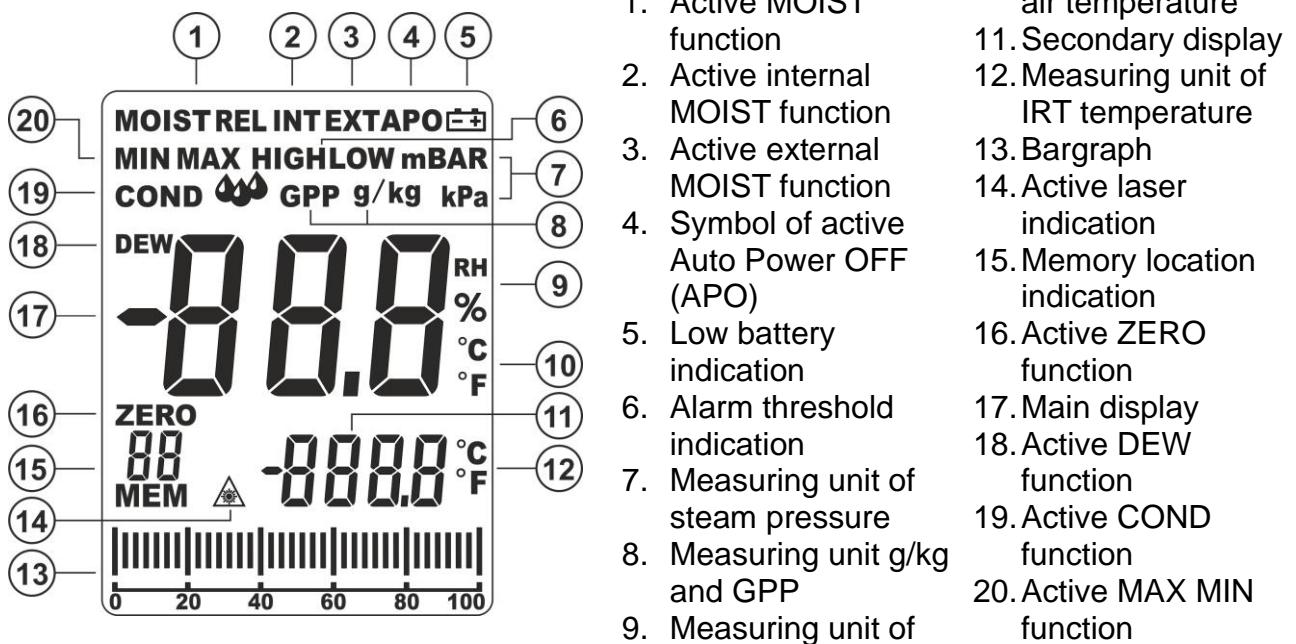
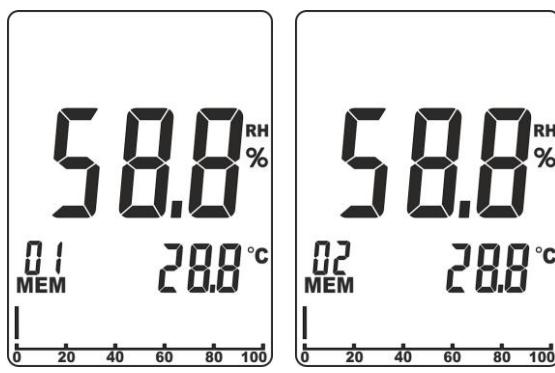

Fig. 2: Display description
Fig. 3: Storage of measurement results
1. With the result shown on the display (see Fig. 3 – left side), press and hold (>2s) key **MEM/ALM** until the instrument gives out a sound.
2. The measured value is saved in the location indicated at the bottom of the display (see Fig. 2 – part 15) and the instrument automatically shows the next available location (see Fig. 3 – right side)
1. Press keys **◀** and **▶** at the same time. The indication of the current memory location (see Fig. 2 – part 15) flashes on the display.
2. Press and hold key **MODE** and switch on the instrument using key **ON/OFF**. Symbol "APO" (see Fig. 2 – part 4) disappears from the display.